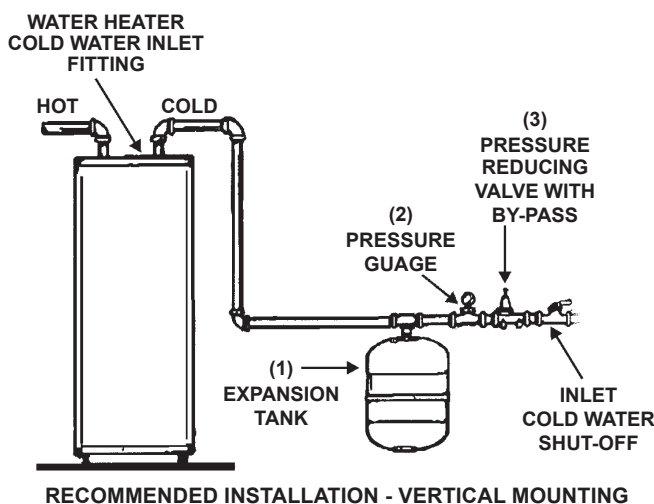

FIGURE 1.
2. The items which should be installed in the cold water line, in sequence from the water heater, are (1) the EXPANSION TANK (2) a PRESSURE GAUGE and (3) a PRESSURE REDUCING VALVE, if required. See Figure 1.
Figures 1 and 2 above show the correct valves and fittings that you will need to install your expansion tank. A threaded (3/4 in.) water connection is supplied on the tank bottom.
2. Install expansion tank, pressure gauge, and pressure reducing valve, if required, as shown above in Figures 1 and 2.